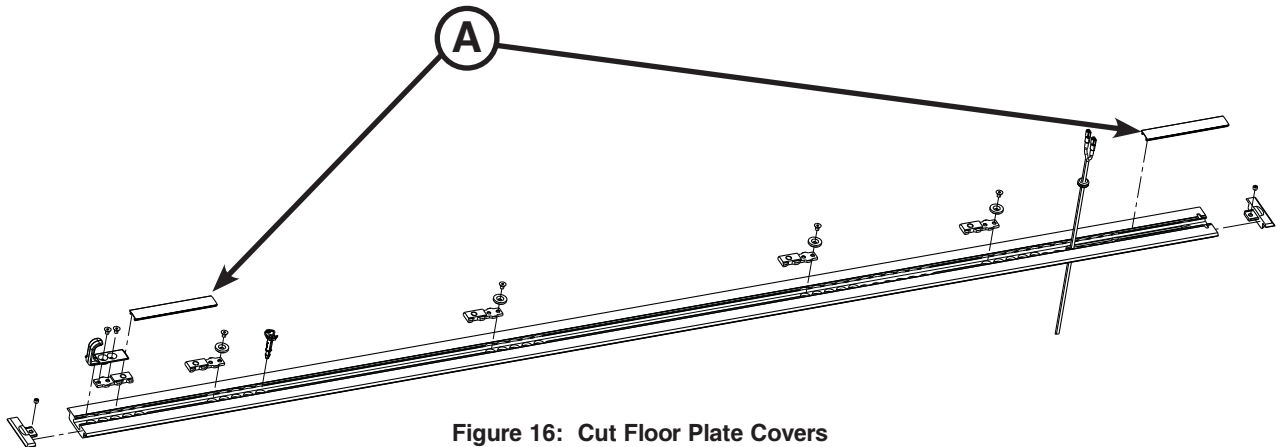

Figure 16: Cut Floor Plate Covers
44. Using a saw, cut the two floor plate covers (6390-001-166) (A) to fit the measured length on both ends (Figure 16). The floor plate cover does not fit over the floor plate attachment bracket.